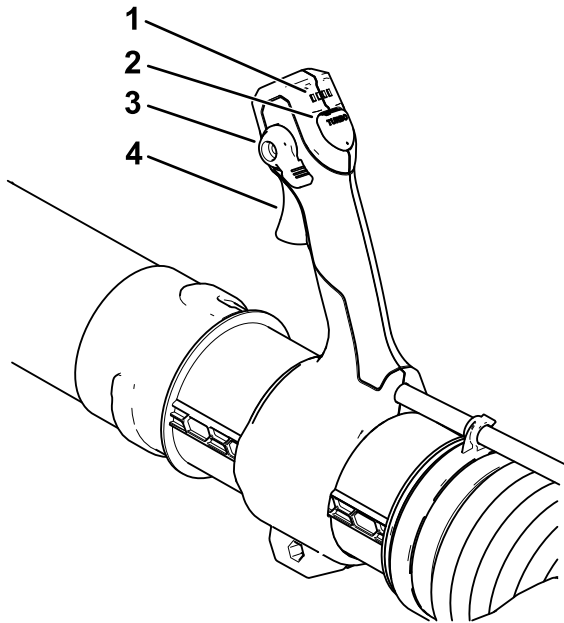

Figure 20
- To start the blower, squeeze the variable-speed trigger (Figure 20).
**Note:** Engage the speed lock to keep the machine on without pressing the variable-speed trigger (Figure 20).
To adjust the air speed as you blow, use the variable-speed trigger (Figure 20).
To achieve maximum performance (air speed), hold the trigger, then press and hold the turbo boost button for the desired amount of time (Figure 20).
To maintain the current air speed, engage the speed lock (Figure 20).